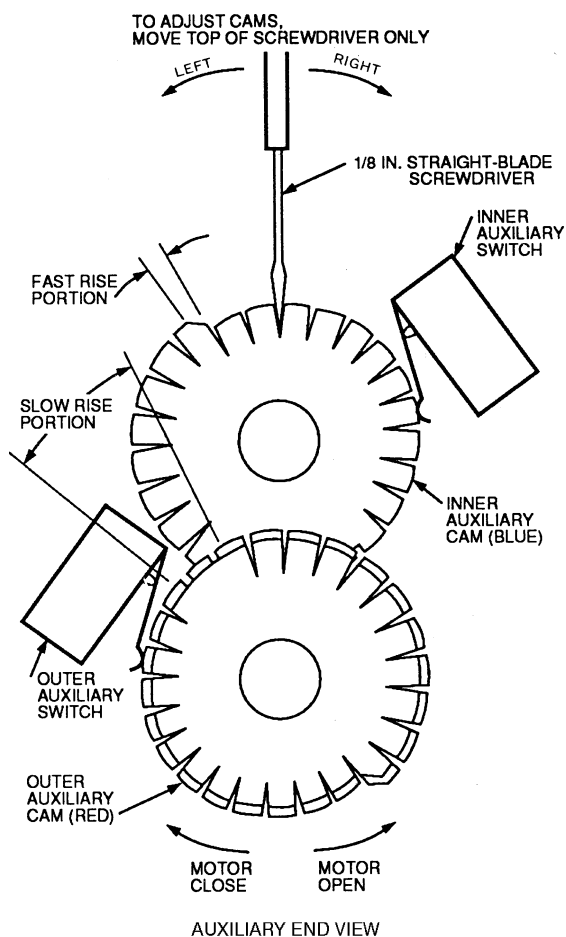

Fig. 41 — Auxiliary Switch Adjustment
2. a. For size 030-050 units: Remove damper motor top cover and verify that pointer points at number 35. If installing new motor, use screwdriver to turn blue cam so pointer lines up with the number 35. See Fig. 41.
- b. For size 055-105 units: Remove damper motor top cover and verify that pointer points at number 63. If installing new motor, use screwdriver to turn blue cam so that pointer lines up with the number 63. See Fig. 41.
5. If motor no. 2 was energized too soon (Step 4 of the test above was yes), turn blue cam one click to left (see Fig. 41). If motor no. 2 was not energized (Steps 4 and 5 of the test above were no), turn blue cam one click to the right (see Fig. 41).